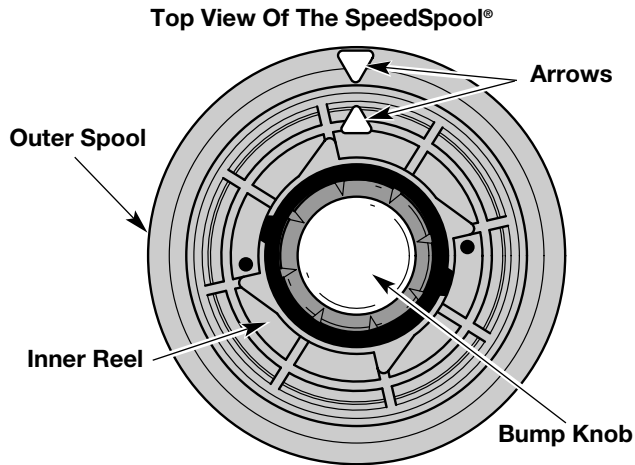

Fig. 17
2. Hold the outer spool and turn the inner reel counterclockwise to line up the arrows on the outer spool and inner reel (Fig. 17).